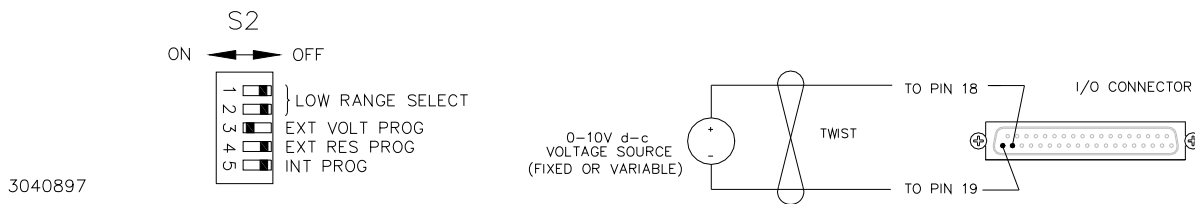

FIGURE 3-2. EXTERNAL VOLTAGE PROGRAMMING OF OUTPUT VOLTAGE
c) **External Voltage Programming:** When enabled via S2-3, this mode provides for output voltage adjustment via an external voltage source (0-10V) connected between pins 18 and 19 (VPROG, -S) of the I/O connector (see Figure 3-2). This technique is useful when implementing digital control of the power supply output voltage via a D/A converter; Kepco's SN/SNR 488 programmers are ideally suited to these requirements.